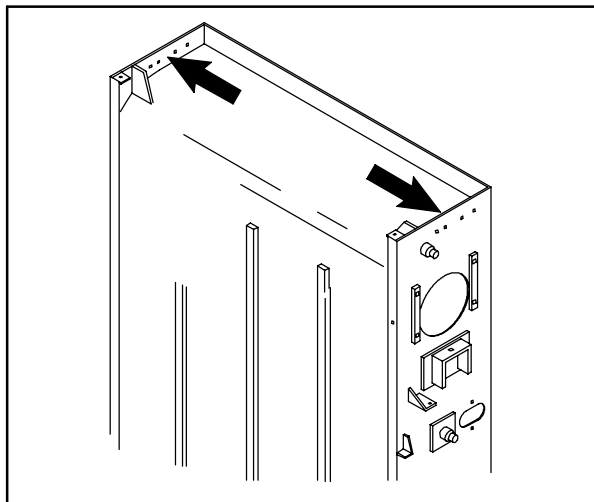

FIG. 6
7. Attach the lift straps, chains, or bar to the large holes located at the top of the left and right panels of the conveyor assembly. Refer to Fig. 6.